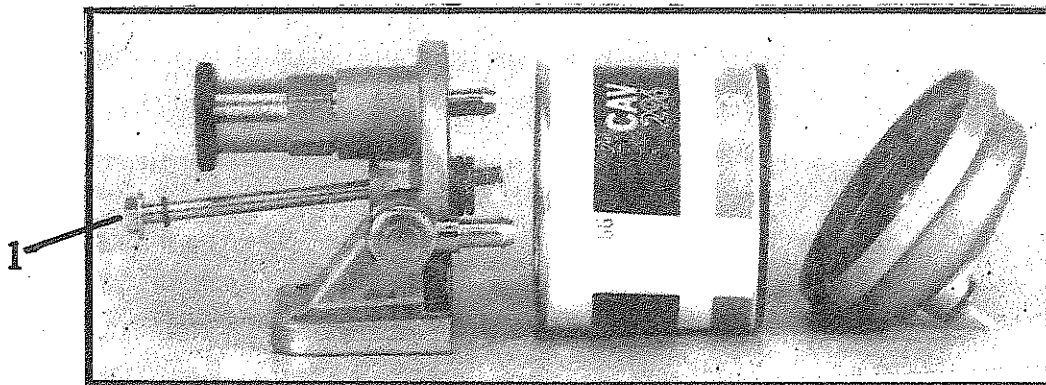

Figure 17
- b) Slacken off screw (1) in Figure 17 located at the top off the filter and replace the filter element and at the same time replace the rubber seals.